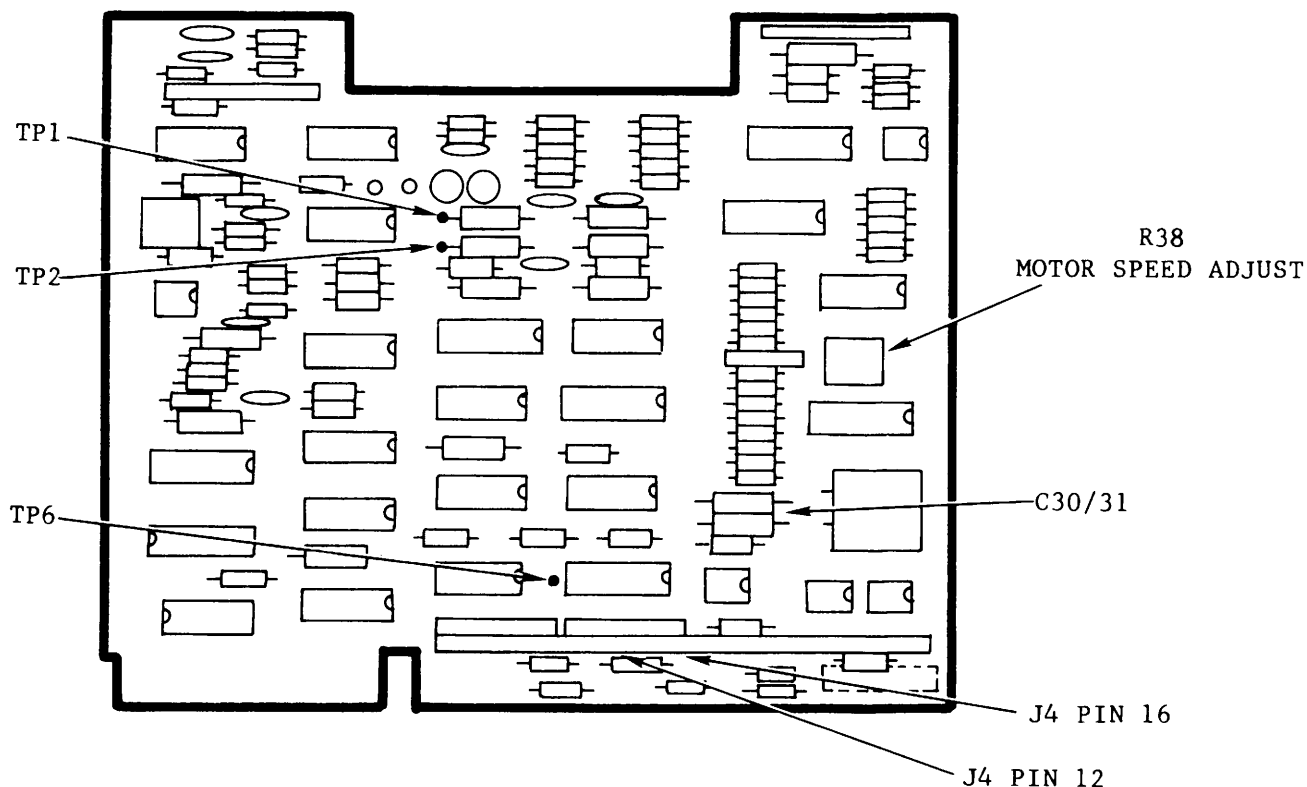

Figure 5-9. MPI PCB Test Point Locations
- 7) Using a straight slotted screwdriver, slowly turn R38 (see Figure 5-9 for location) while viewing the timing marks. The timing marks will turn as you turn R38. Adjust R38 until the timing marks appear to be stationary.
See Figure 5-9 for Test Point (TP) locations.
The MPI drive write-protect consist of a LED and a phototransistor. When a write-protected diskette (tab ON) is inserted, the light from the LED is blocked reverse-biasing the phototransistor presenting a high to J4 pin 16. When a non-write protected diskette (tab OFF) is inserted, the light from the LED forward-biases the phototransistor presenting a low at J4 pin 16. For the following test point locations refer to Figure 5-9.